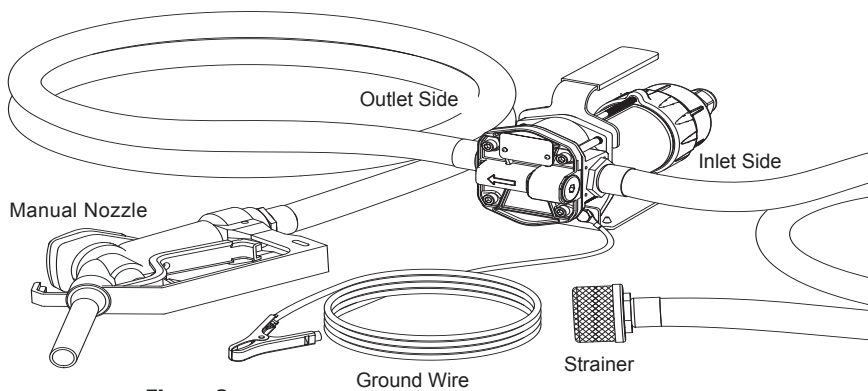

Figure 2
2. Install hose into outlet side of pump (see Figure 2) and tighten.